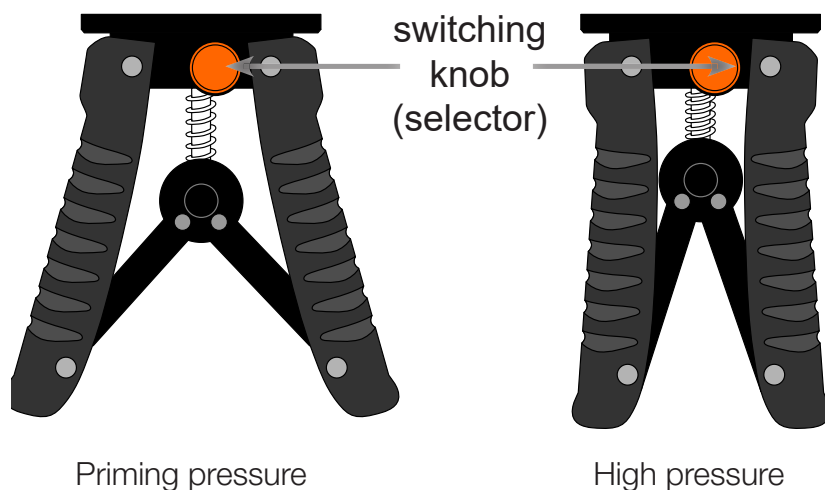

Figure 3. Selecting prime versus high pressure mode with switching knob.
4. Adjust the fine control (1 in figure 1) to “the middle”. Make sure the stroke selector /switching knob (7 in figure 1) is set to prime fully out. If not, squeeze handles fully in and press the selector (see figure 3).